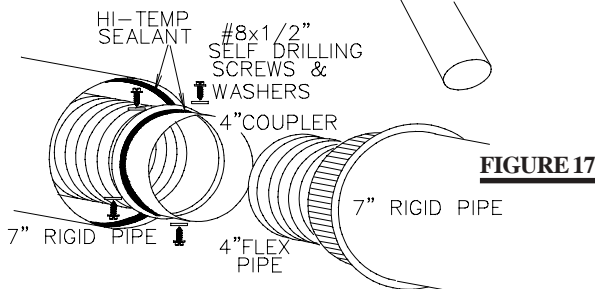

FIGURE 17
4. If more than one length of liner needs to be used to reach the stove, couple them together as illustrated in **FIGURE 17**. Seal the joints using the same procedure as described above.